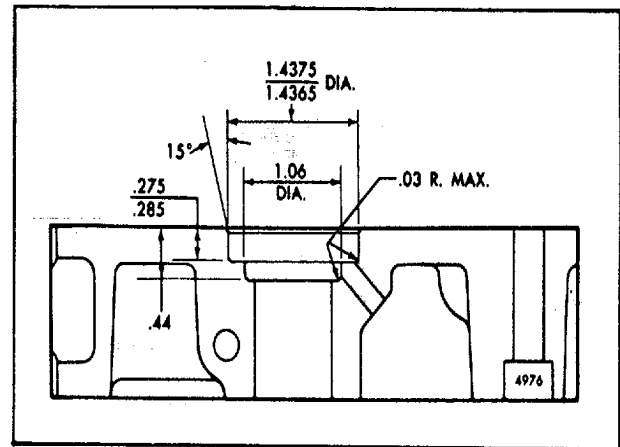

Fig. 4 - End Plate Oil Drain Back Counterbore
10. Remove the finish cutting tool and install an end mill to machine the additional 1.06 " diameter counterbore. The total depth of the combined counterbores is .44 " (Fig. 4). The additional counterbore provides proper oil drain back front the oil seal area.